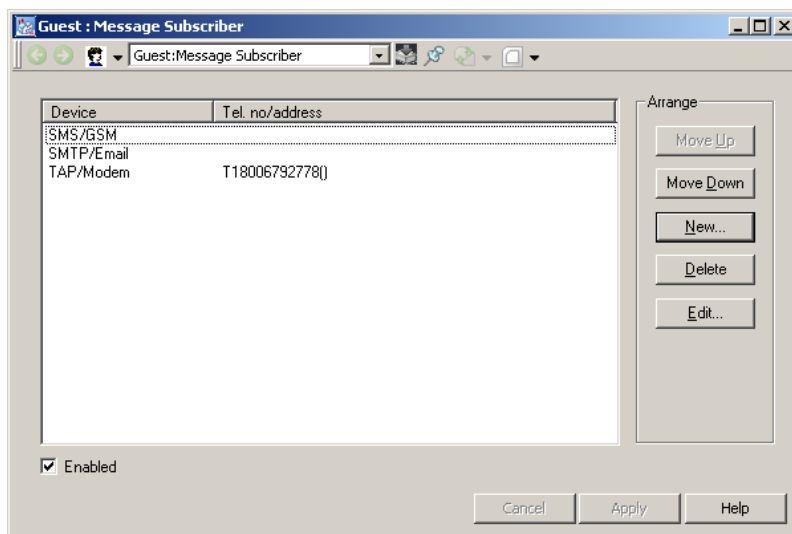

Figure 100. Message Subscriber with Added Devices
11. Figure 100 shows the Message Subscriber at this point in the procedure. Select **SMS/GSM** in the Message Subscriber and click **Edit** to access the SMS/GSM Device.